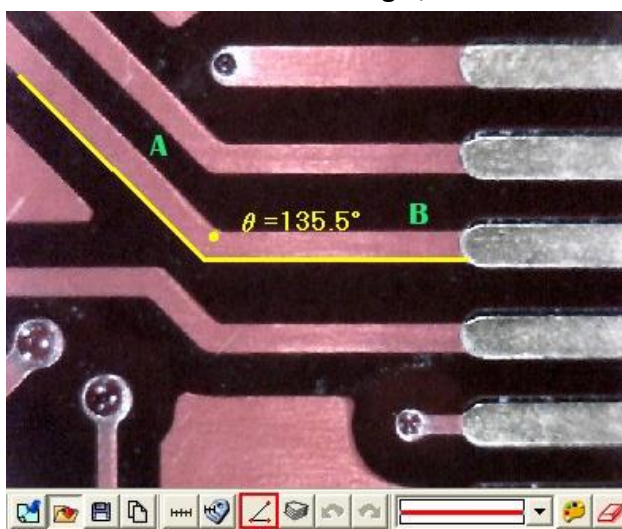

Fig 5-70 3 Points Angle
- (7) 3 Points Angle: Measure the angle on the object and use . In Fig. 5-70, it can see an angle on the object, draw a line and stop at the corner of angle, and then draw the other line from the angle; the angle can be automatically calculated. a dot shows the measured angle, it is 135.5°.